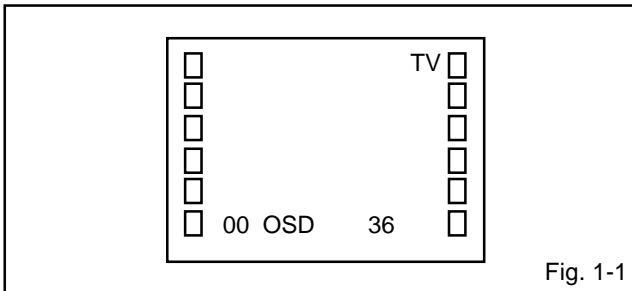

Fig. 1-1
1. In the condition of NO indication on the screen. Press the VOL. DOWN button on the set and the Channel button (9) on the remote control for more than 2 seconds to appear the adjustment mode on the screen as shown in Fig. 1-1.
3. Activate the adjustment mode display of Fig. 1-1 and press the channel button (01) on the remote control to select "CUT OFF".
4. Activate the adjustment mode display of Fig. 1-1 and press the channel button (12) on the remote control to select "R CUT OFF".
3. Activate the adjustment mode display of Fig. 1-1 and press the channel button (03) on the remote control to select "H.PHAS".
3. Activate the adjustment mode display of Fig. 1-1 and press the channel button (07) on the remote control to select "V. SIZE".
3. Activate the adjustment mode display of Fig. 1-1 and press the channel button (08) on the remote control to select "V. LIN".
2. Activate the adjustment mode display of Fig. 1-1 and press the channel button (33) on the remote control to select "LEVEL".
3. Activate the adjustment mode display of Fig. 1-1 and press the channel button (34) on the remote control to select "SEP 1".
4. Activate the adjustment mode display of Fig. 1-1 and press the channel button (34) on the remote control to select "SEP 1".
8. Activate the adjustment mode display of Fig. 1-1 and press the channel button (35) on the remote control to select "SEP 2".
1. Activate the adjustment mode display of Fig. 1-1.
3. Activate the adjustment mode display of **Fig. 1-1** and press the channel button **(16)** on the remote control to select "BRI CENT".